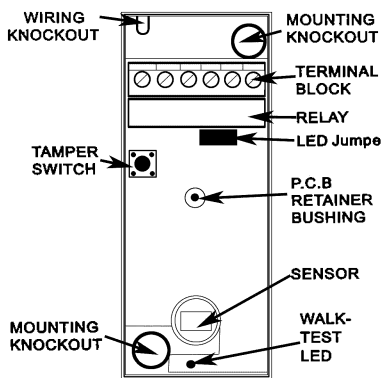
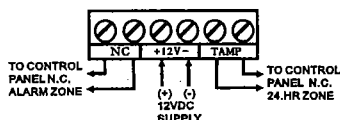

Figure 9. Inside the 461
Fig 10. Terminal Block Wiring
5. Mount the base with the PCB at the location and height that gives optimum coverage. Use the two mounting knockouts (see Fig. 9).
To route wires into the detector, use the wiring knockout located at the top left of the unit base (Figure 9). Since the knockout is angular, the wiring may be inserted from behind the base or from the top, as required for the particular installation. Refer to Fig. 10 and connect wires to the terminal block in the following order: